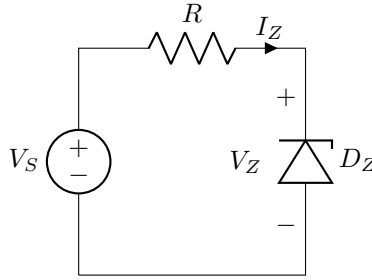

Figure 3: Zener diode characteristic measurement circuit. The Zener diode is reverse-biased with the cathode toward the positive supply.
You will now investigate the voltage regulation properties of a Zener diode operating in its breakdown region. Construct the circuit shown in Figure 3 using your Zener diode and a $100\ \Omega$ resistor. Pay careful attention to the polarity: for the Zener to operate in breakdown, its cathode (the marked end) must be connected toward the positive terminal of the supply through the resistor, and its anode must be connected to ground. This is the reverse of normal diode operation.
4. For the Zener circuit in Figure 3, assume $V_S = 10$ V, $R = 100$ Ω , and $V_Z = 5.1$ V (and assume this voltage remains constant in breakdown). Calculate (a) the current through the Zener diode, (b) the power dissipated by the Zener diode, and (c) determine whether this exceeds a 1 W power rating. Show all work.
5. Explain in your own words the difference between static (DC) resistance and dynamic (small-signal) resistance of a diode. Write the mathematical expression for calculating each type of resistance.